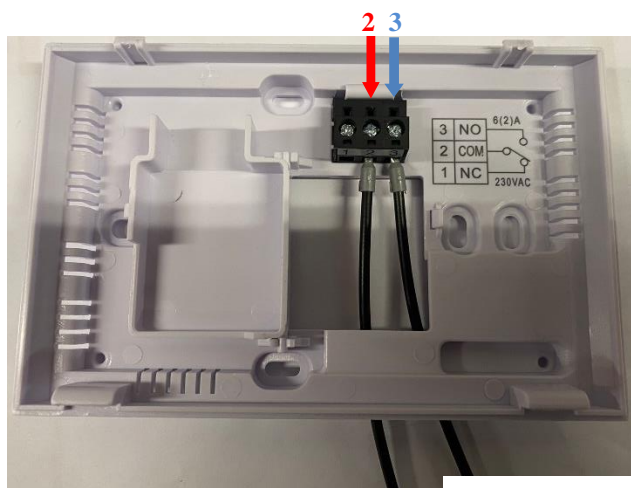

Figure 6.2
- Connect the two thermostat wires to point 2 and 3 (figure 6.2)